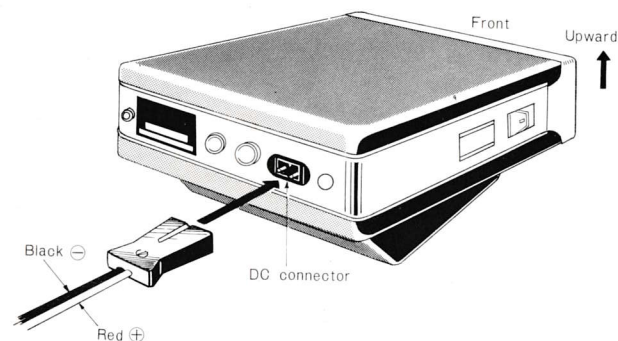

Fig. 8 Power Cord Connection
1. Connect power, antenna and microphone to the set. Since the power cord has (+) and (−) polarity, confirm proper polarity when connecting the cord to the battery posts and set. (Refer to Fig. 8.)